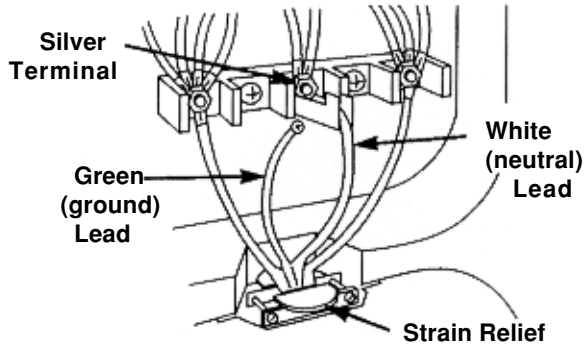

Figure 2-9
7. Mount the green ground lead from the power cord to the grounding link with the grounding link screw you just removed (see Figure 2-9). **This lead must be attached first and must not contact any of the other terminals.**
8. Using the brass terminal nuts you removed in step 3, connect the power supply cord lead ends to the terminal screws as follows (see Figure 2-9):